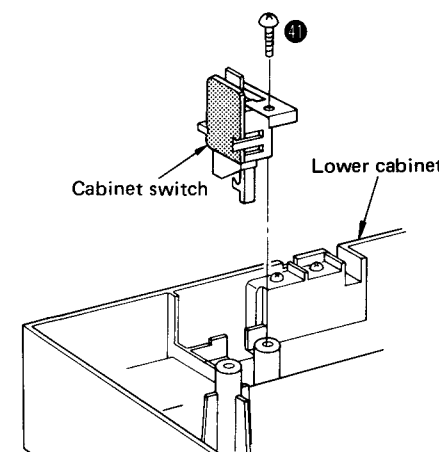

Fig. 12
2. Remove the setscrew of the cabinet switch. (Fig. 12 : 41)